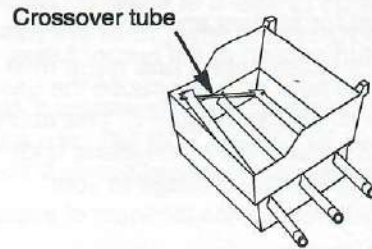

Figure 16
- g) Lift and twist the burner assembly slightly, to separate the crossover tube from the burners. Figure 16. Remove the burners from the cooking box.